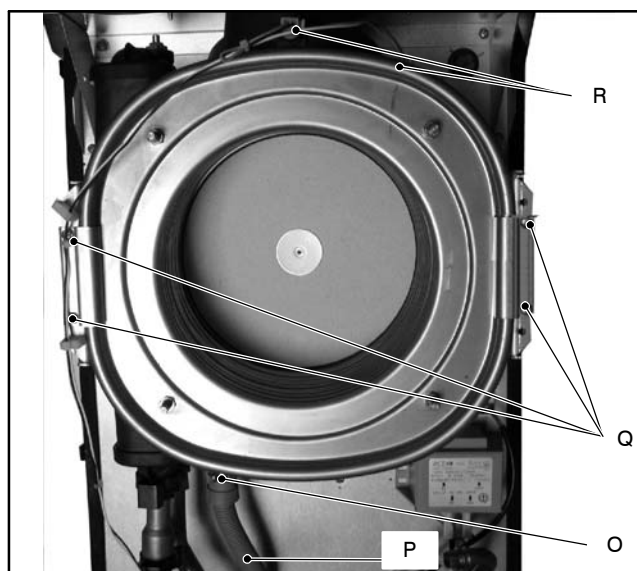

Fig. 5.3
- 11 Using pliers, remove the spring *O* moving it downwards and disconnect the rubber pipe *P* (Fig. 5.3).
- 12 Unscrew the screws *Q* and remove the clamps (Fig. 5.3).
- 13 Disconnect the two connectors *R* by pressing the plastic hook placed on the side of the connector (Fig. 5.3).